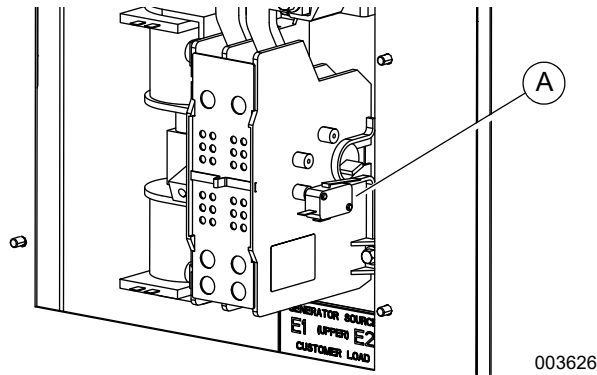

Figure 3-6. Auxiliary Contact
See Figure 3-6. If desired, there is one normally-closed Auxiliary Contact (A) on the transfer switch to operate customer accessories, remote advisory lights, or remote annunciator devices. A suitable power source must be connected to the common terminal. If needed, an extra auxiliary contact can be added.